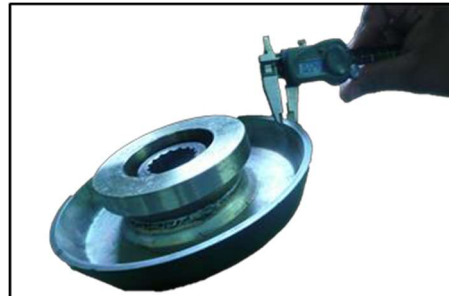

Figure 7.5.3
8. Inspect all parts. Braking surfaces should be clean, free of grease/oil and should not be glazed. Measure brake gap (see Figure 7.4.7) and brake lining (see Figure 7.5.3) and compare the measurement with the values listed in Table 6.7.1. Replace the brake pad assembly if the measurement is smaller than thereplace limit.